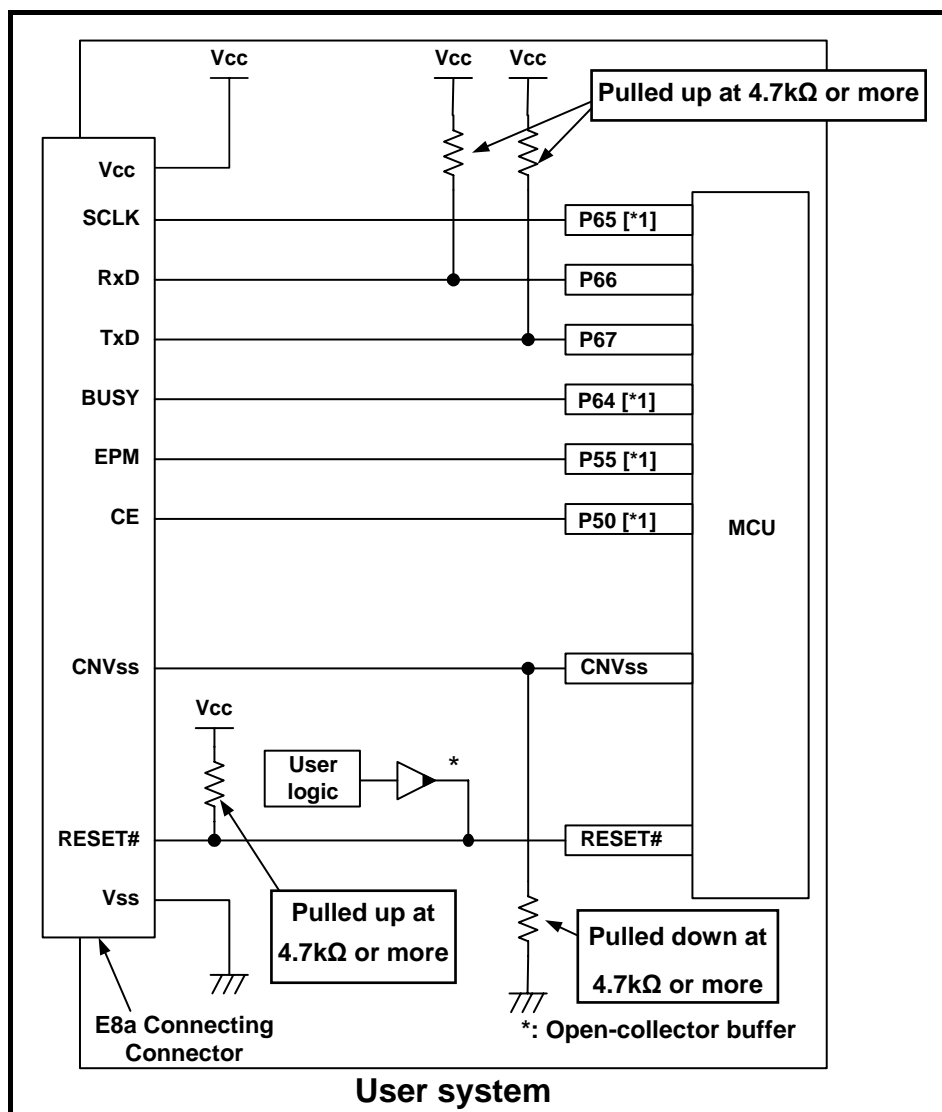

Figure 4.1 Example of an E8a Connection
- Single power supply and single-chip mode: See Figure 4.1.